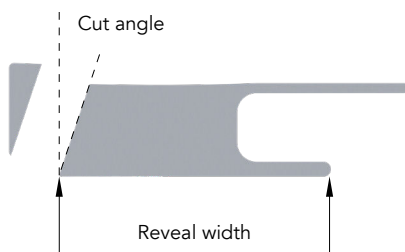

Figure 9
- Set your table saw angle determined for the trim to achieve the angle of the window or wall with irregular corners. Example: If the window or wall corner is 110°, then your saw angle cut for the trim is 35° (Figure 8) for each length of trim. Two (2) lengths needed per corner (Figure 9).